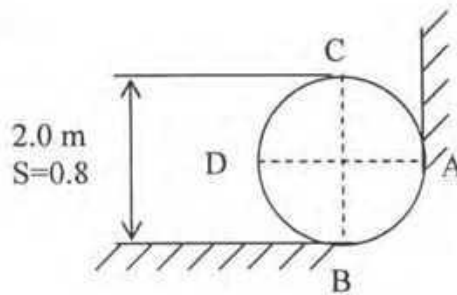

Figure 6
- 4 a. Determine the horizontal and vertical forces acting on the curved surface CD on the cylinder in Figure 6. 6
- b. Determine the horizontal and vertical forces acting on the curved surface DB on the cylinder in Figure 6. 7